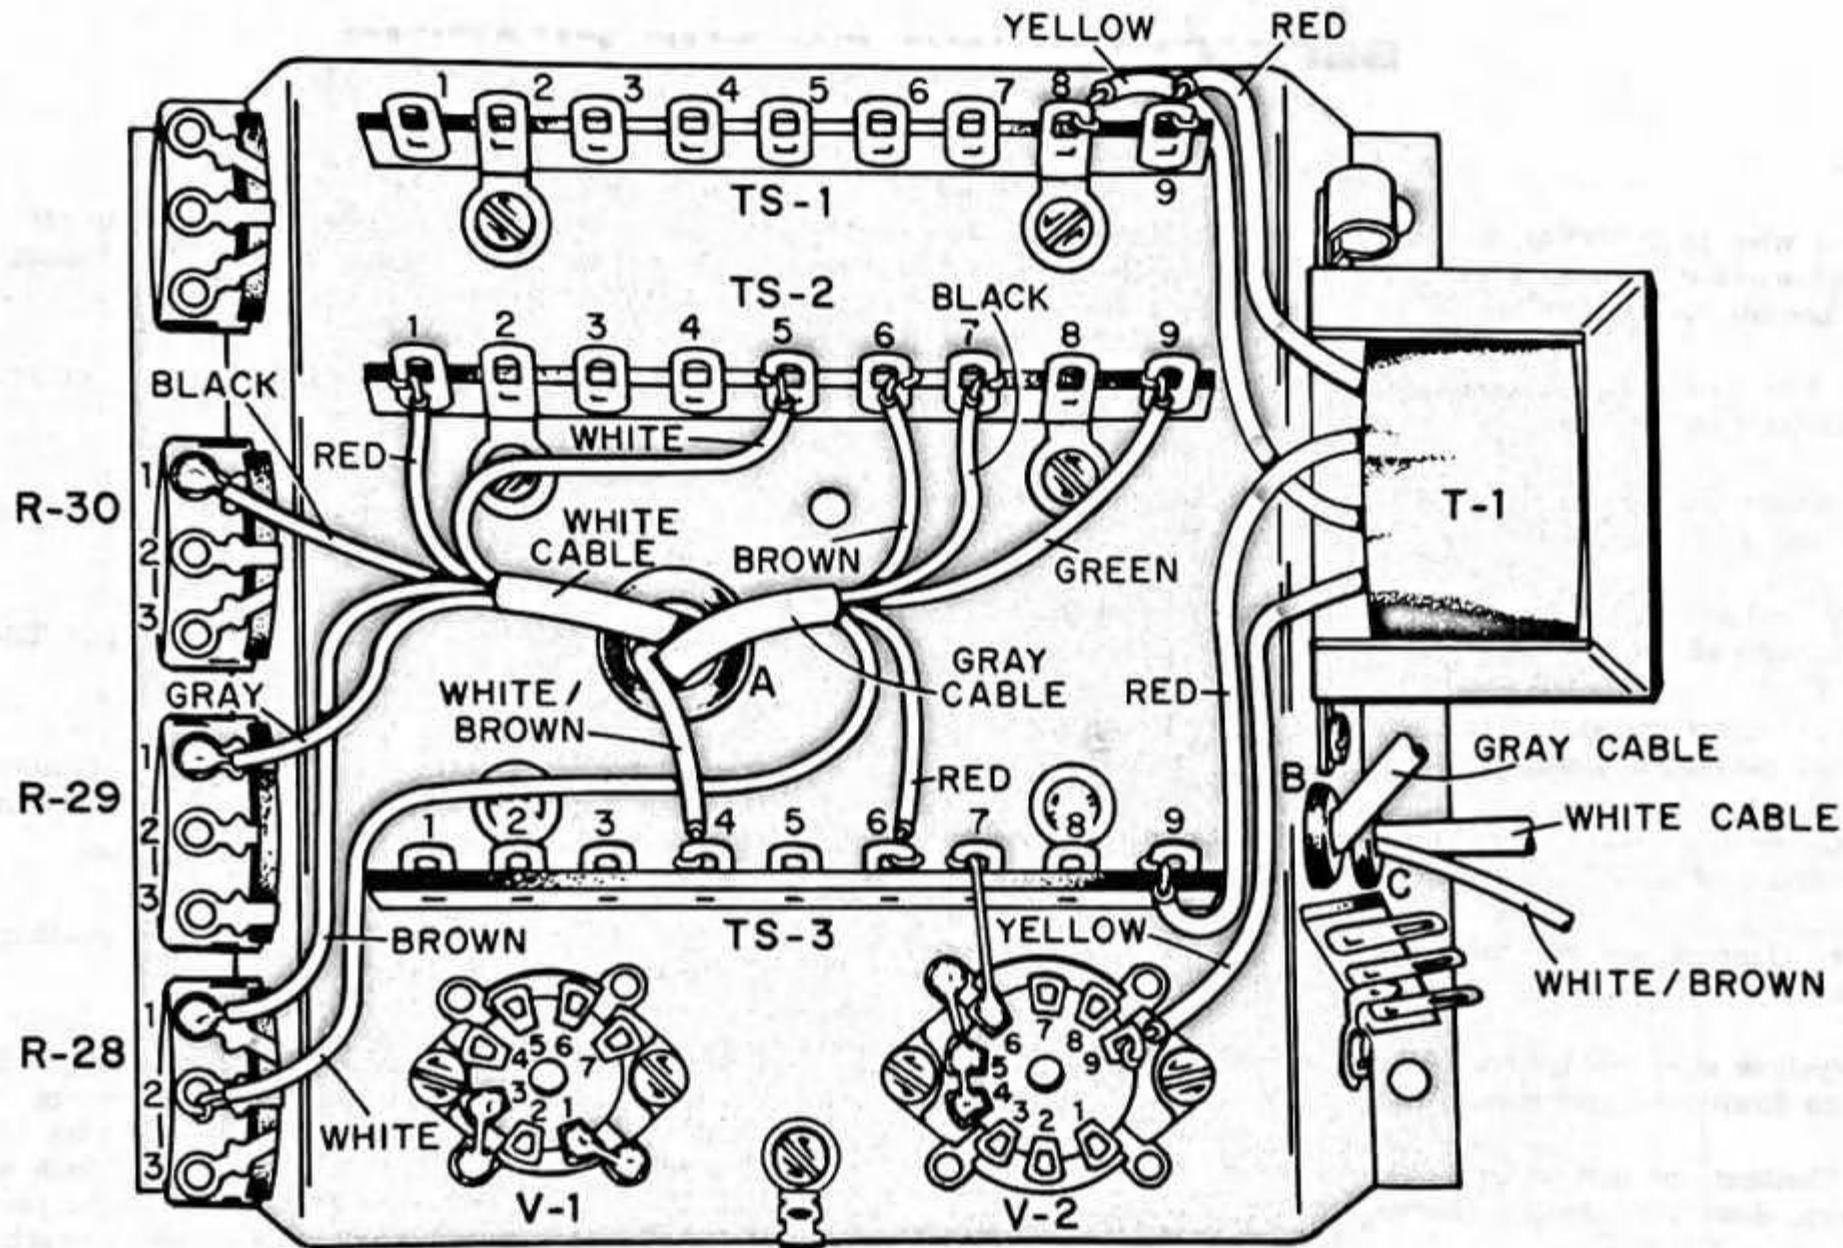

FIGURE 2. FIRST WIRING ON THE CHASSIS
SEE FIGURE 2.
- The first wiring on the chassis is now complete. Check your chassis wiring against Figure 2. All connections shown in this picture should be made on your VTVM chassis.